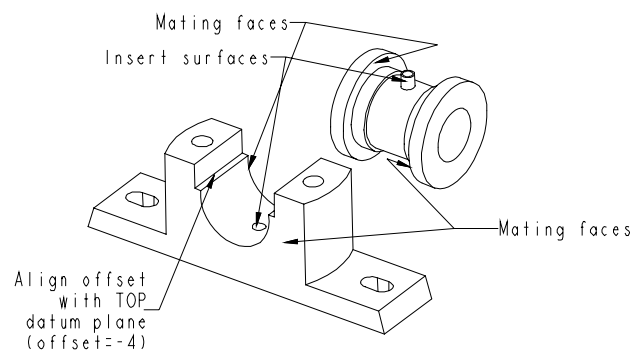

Figure 9-65 Constraints used for assembling the components
3. Select the **Mate** option from the **Type** drop-down list and mate the face of the Brasses with that of the Casting as shown in Figure 9-65.
4. Select the **Mate** option from the **Type** drop-down list and mate the face of the Brasses with that of the Casting as shown in Figure 9-65.
5. Select the **Insert** option from the **Type** drop-down list and insert the oil hole of the Brasses into that of the Casting as shown in Figure 9-65. You will notice that the Brasses assemble with the wrong orientation. Also, some more constraints are left to be defined.
7. Select the **TOP** datum plane from the Brasses and then select the face of the Casting shown in Figure 9-65. The red arrow is displayed and you are prompted to enter the offset